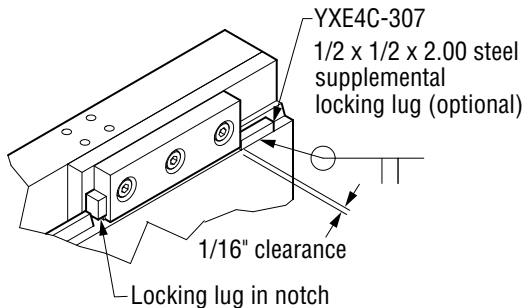

Figure 3-2, Locking Lug
9. Weld on the supplemental locking lug that is supplied with the attachment, (two pieces of 1/2" x 1/2" x 2.00" steel included with the attachment) with either E-6011 or E-6013 welding rod, or equivalent, on each side of the truck carriage. (Figure 3-2)